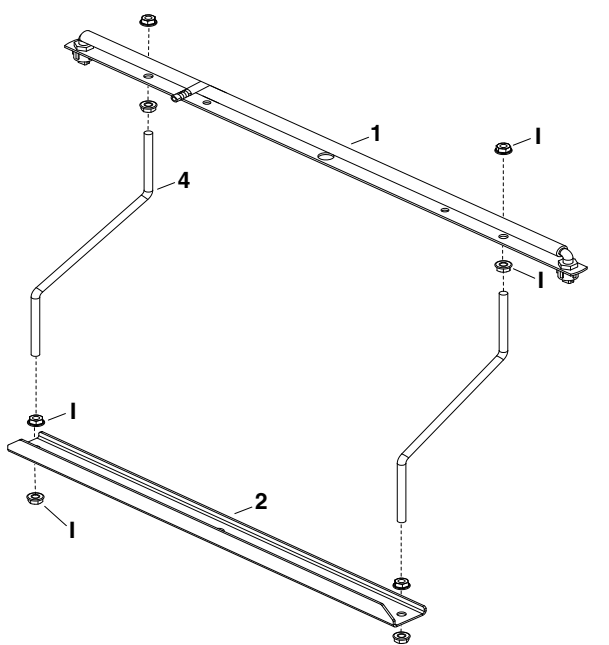

FIGURE 6
STEP 6: (SEE FIGURE 6)
- Attach the boom support rods (4) to the boom assembly (1) using four hex nuts (I).
- Attach the boom support rods (4) to the boom support bracket (2) using four hex nuts (I)